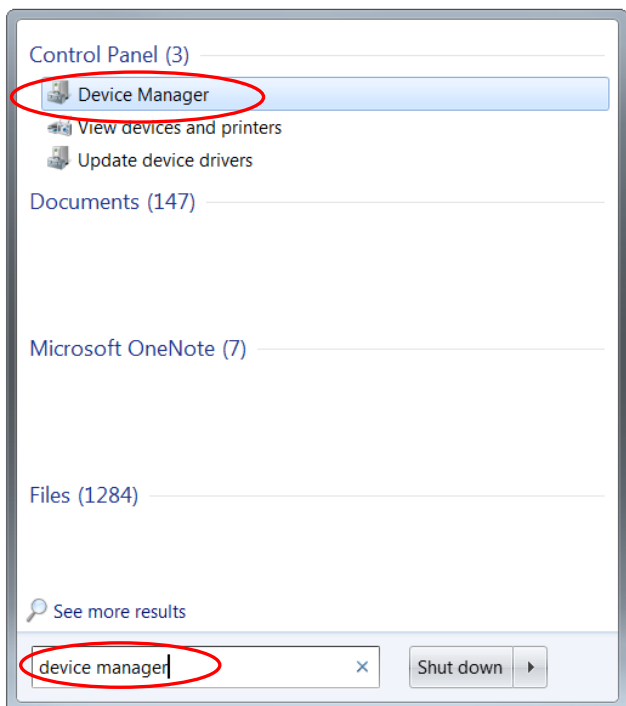

Figure 24
6. Identify the USB COM port used by the TCSMCNAM3M002P. To do so, connect the cable at both ends, click the Start menu on your PC and search for “Device Manager”, as in Figure 24. Open the Device Manager, then, click on Ports (Com & LPT) and read the number of the port “TSX C USB 485”: In the example below, it is **COM12**, as in Figure 25.